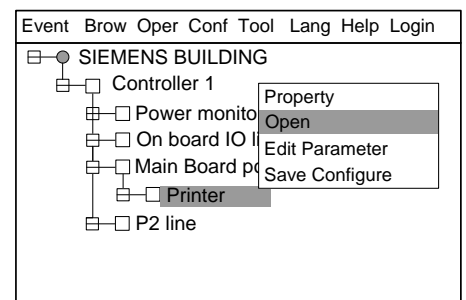

Fig29-4
3. Press "→" to pop out the shortcut menu (Fig.29-4). Use "↓" to select "Open" and press "OK" to open the printer.